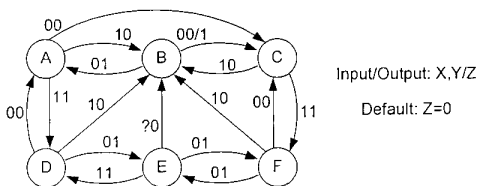

Figure 1
1. Figure 1 shows the state diagram of a synchronous state machine having two inputs, X and Y and one output, Z . Transitions from a state to itself have been omitted. The symbol “?” denotes “don't care”.